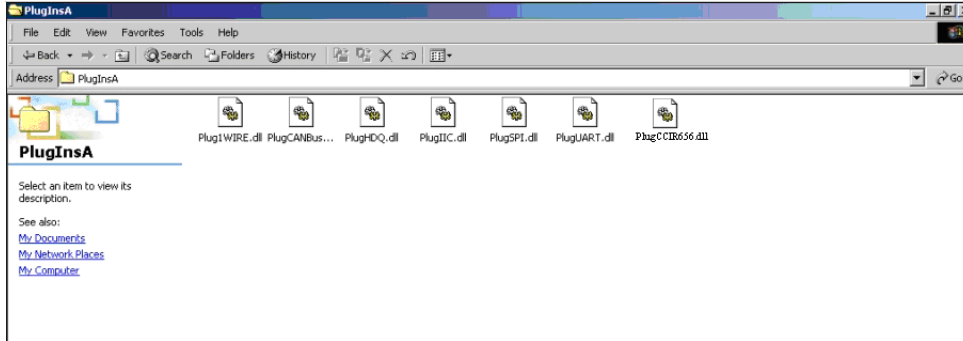

Fig4-38 - PlugInsA
STEP 1. Put the CCIR656 plug in the PlugInsA as the Fig4-38.